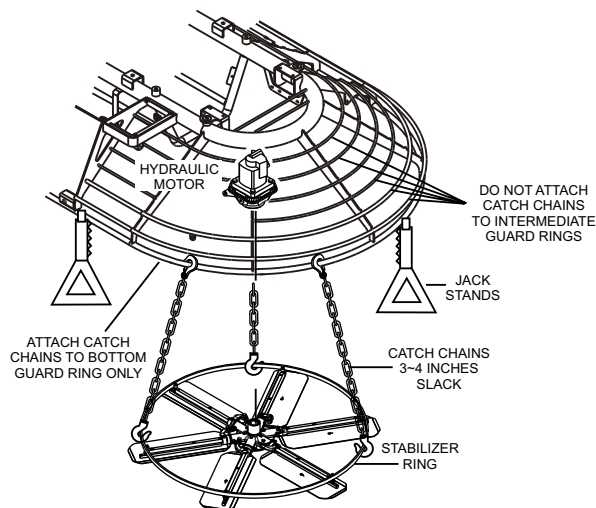

Figure 3. Supporting Stabilizer Ring
Position the catch chains so that they are equally spaced, with no more than 3 to 4 inches of slack. This will prevent the spider assembly from falling and striking personnel, causing bodily harm. The catch chains shown in Figure 3 are shorter than they appear. They are shown this way for clarity only.
1. Attach one end of three equally spaced straps or catch chains to the **stabilizer ring** (Figure 3). Attach the other end of these straps or chains to the **bottom guard ring** in a manner that would prevent the spider assembly from falling **NEVER** use the **intermediate guard rings** to support the spider assembly.